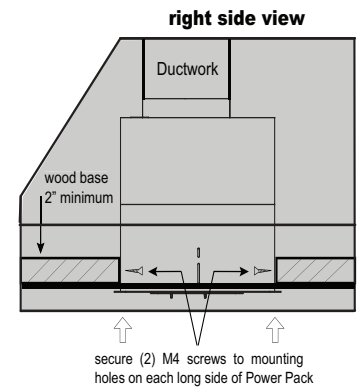

FIG 3
5. Fasten (2) M4 screws into the rear long side of Power Pack. If a liner is used the screws will go through the Power Pack mounting holes, then the liner and into the wood base. **note:** Wood blocking may need to be added to cabinet base if additional support is needed. see **FIG 3** and **FIG 4**
6. Remove 4 screws from Power Pack face plate. The face plate will drop down and hang by internal chains. Access to front long side of Power Pack is now available. Fasten (2) M4 screws into the front long side of Power Pack.
7. Re-install Power Pack face plate by (4) previously removed screws.